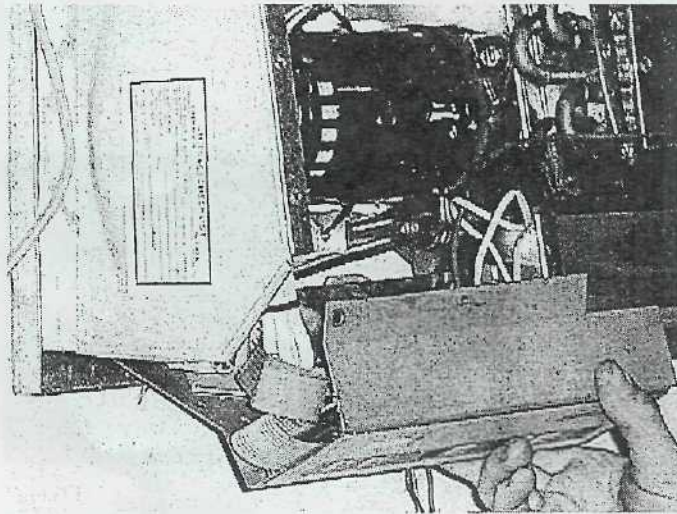

Fig. 4- Remove Control Panel.
4. Remove Control Panel. [FIG. 4]